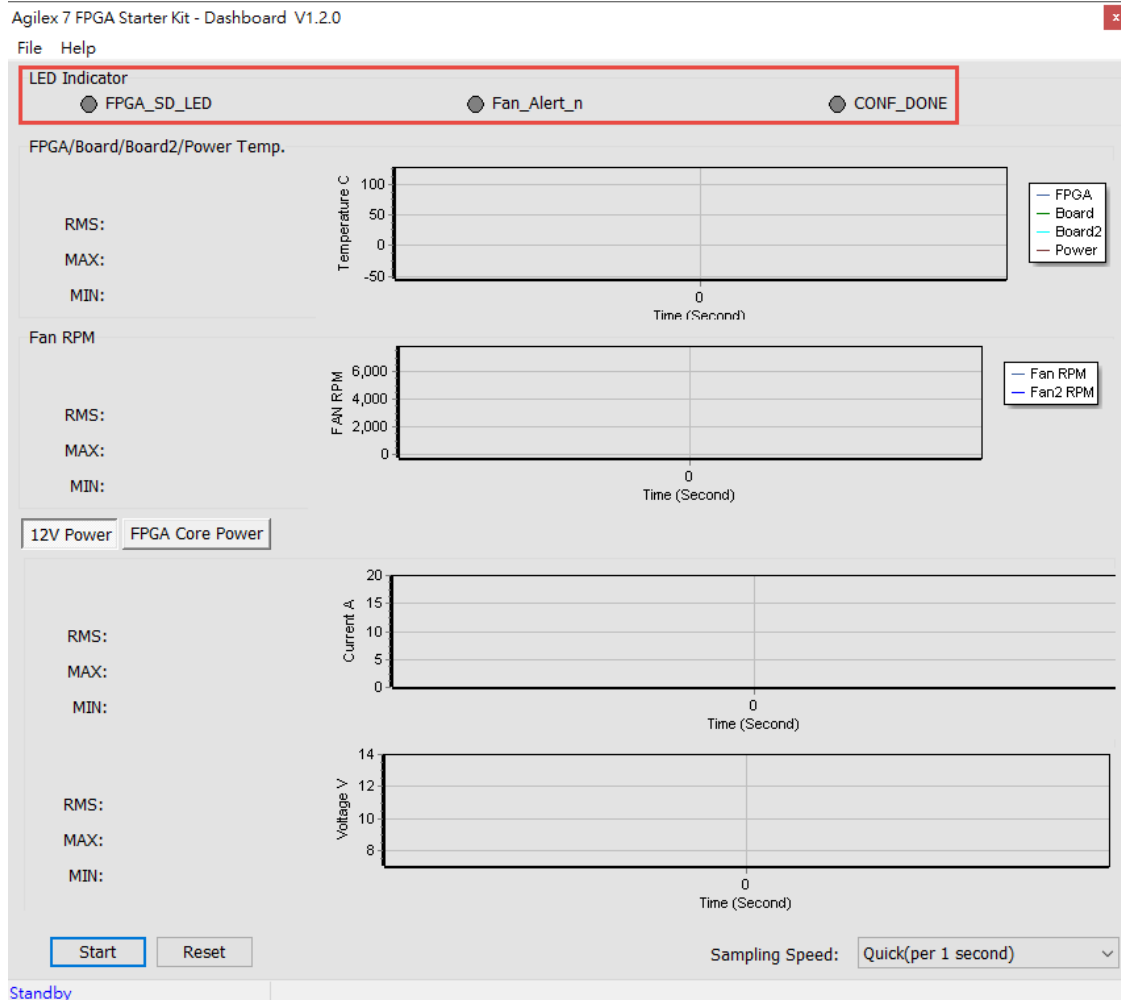

Figure 3-8 FPGA Status section
- **FPGA Status:** As shown in Figure 3-8, it will show the status LED number on the Agilex 7 FPGA Starter Kit board. The definitions of these indicator LEDs are as follows: